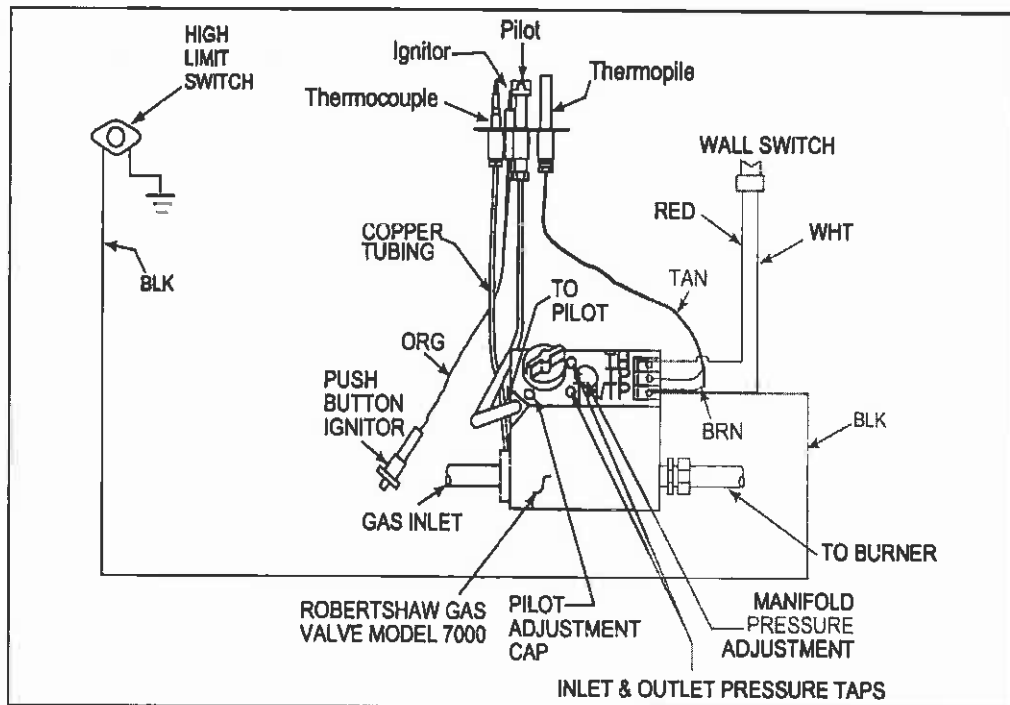

Figure 15 - Standing Pilot Ignition Wiring Diagram
- 2) This appliance may be connected to a thermostat (not supplied). Use a thermostat that is compatible with a millivolt gas valve. See Figure 15.